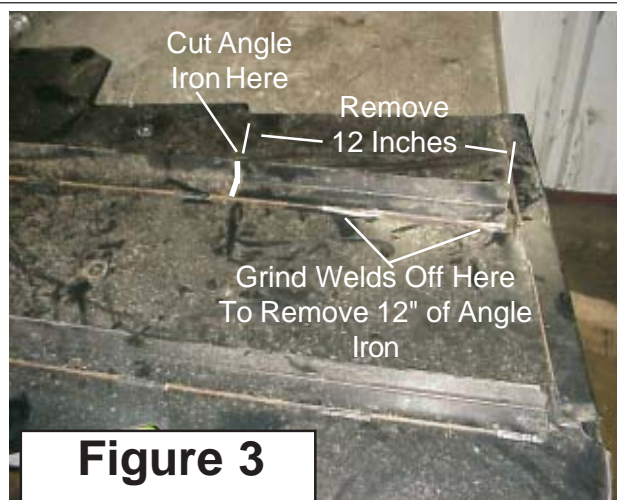

Figure 3
2. Modify Tank Guard. There are two reinforcement braces (made of Angle Iron. Welded to the bottom of the guard. The inner brace (angle iron closest to the tractor) will interfere with the Left Hand Frame Rail. The Angle Iron will have to have 12 inches cut off and removed. (See Figure 3) CUT ONLY ANGLE IRON BRACE not Fuel Tank Guard. Reinstall the Fuel Tank Guard back up under Fuel Tank and tighten mounting bolts. Shown below in figure 3 & 4 are the four guard mounting bolt holes.